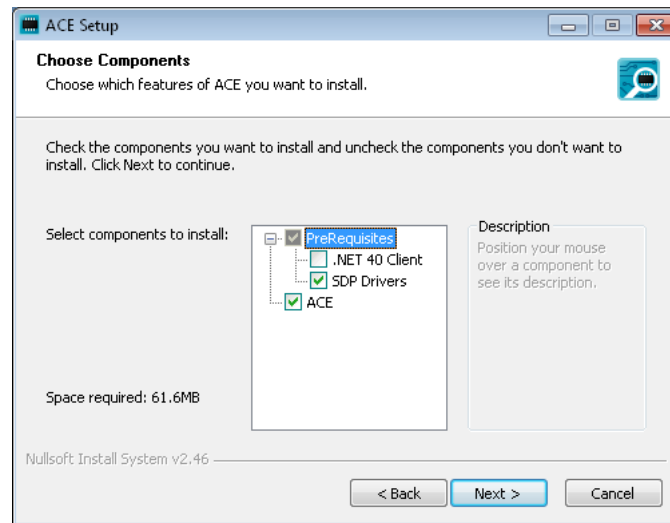

Figure 2.2: ACE Setup Wizard Step 2
Step 2: Choose the features of ACE you wish to install, Figure 2.2. It is recommended that all features be selected since ACE cannot be run without the required prerequisites; prerequisites will only be installed if the latest version is not found locally. Click “Next” to proceed to the next step in the wizard.